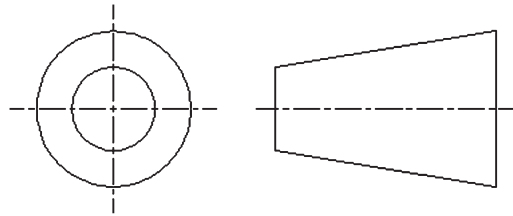

FIGURE 27.8
- **Projections:** These can be front, back, top, bottom, side, and isometric in nature. Be aware of how projected views are oriented from the parent view and where they are located. A head-on view turns to the right and faces the parent view (relative to you, the observer). Figure 27.8 demonstrates the convention used.